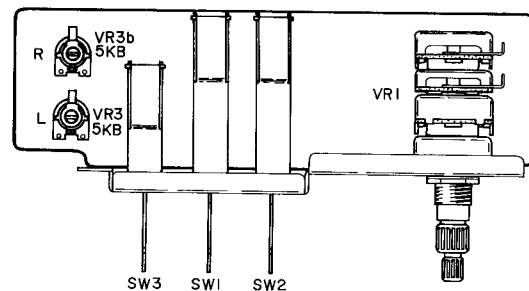

Fig. 7 Volume P.C Board M2-5619
- c) Adjust VR-3a,b so that level-meter indicates 3 watts. (Refer to Fig. 7)